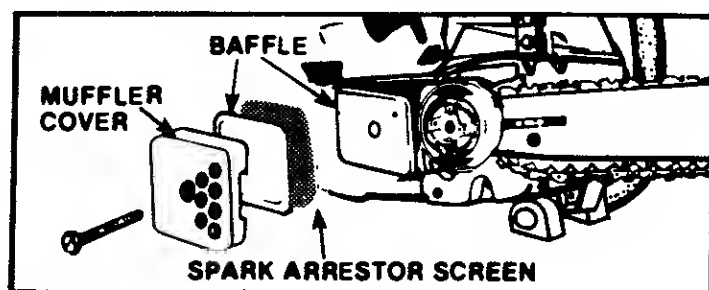

Figure 38
2. Remove the Muffler Cover. Figure 38.